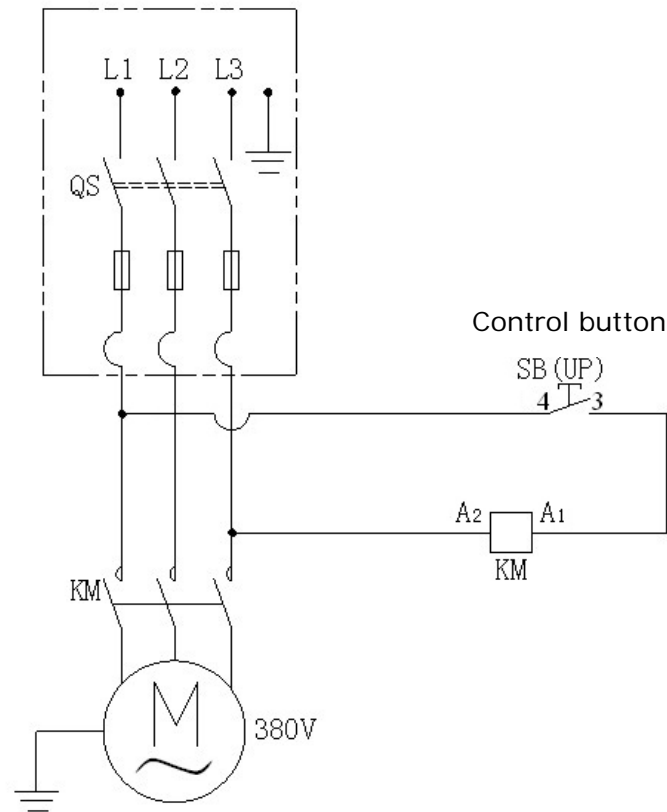

Fig. 32
2.1. Circuit diagram (See Fig. 32).